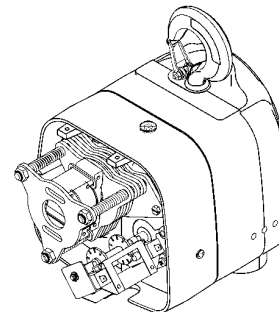

Figure 7 - Electrical Panel Removed
2. Remove the electrical panel by removing the stand-off screws (See Figure 16). The limit switch and brake are now accessible as shown in Figure 7.